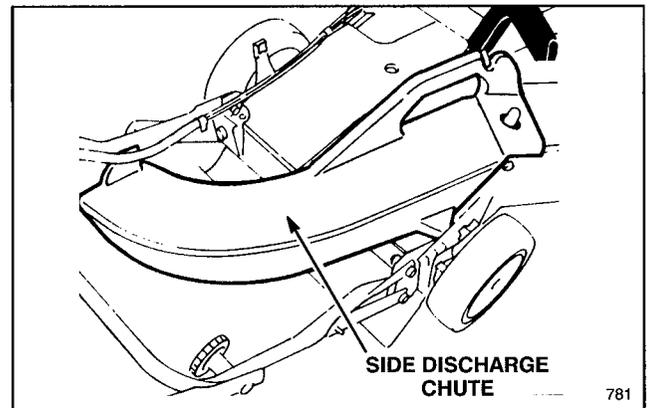

Figure 32
2. **Side Discharge Kit, Model 59168**—(requires Rear Bagging Kit, Model 59174). Installs in seconds. Rear mounted in place of grass bag or discharge tunnel plug. Disperses clippings while trimming on both sides (Fig. 32).